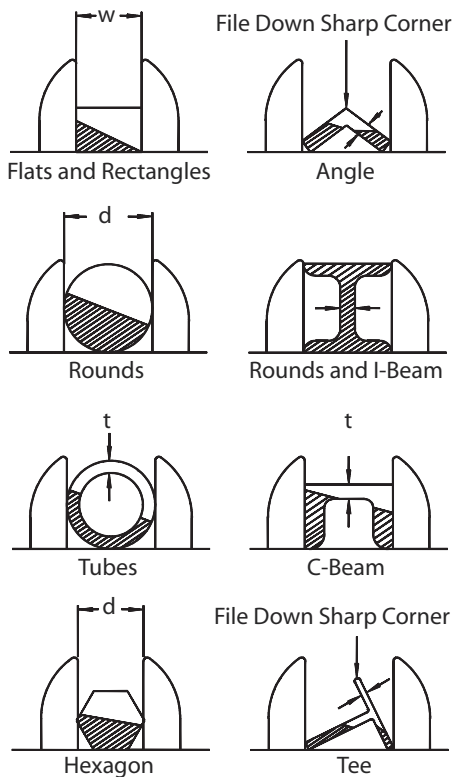

Figure 6 – Clamping Configurations and Thickness Average Calculation
Refer to Figure 6, page 8.
1. The workpiece should rest flat on the workbed without the need for side support. Some suggested configurations are shown in Figure 6.
Refer to Figures 6 and 8.
6. Flats and rectangles have thickness averages of w (See Figure 6).